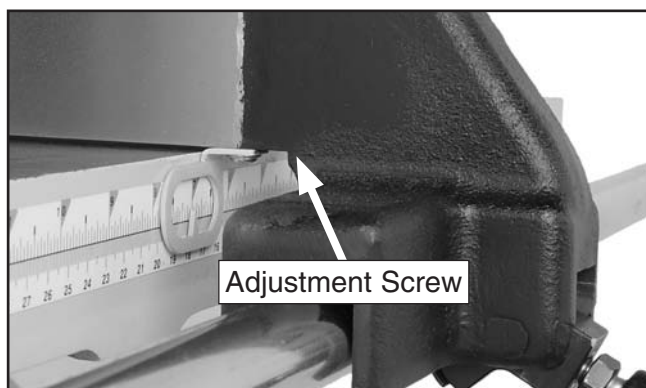

Figure 31. Fence pointer.
4. Loosen the pointer adjustment screw shown in **Figure 31**, set the pointer in line with the "0" mark on the scale, then re-tighten the screw.